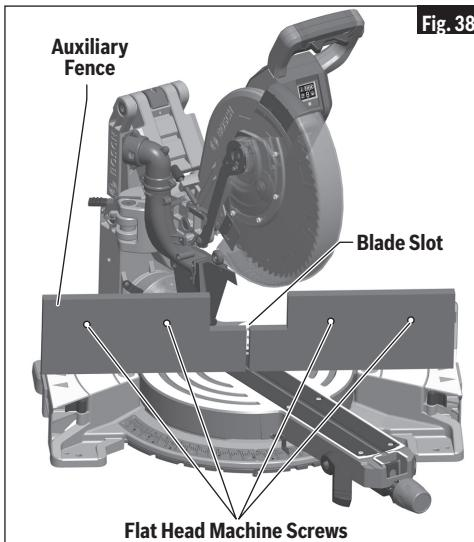
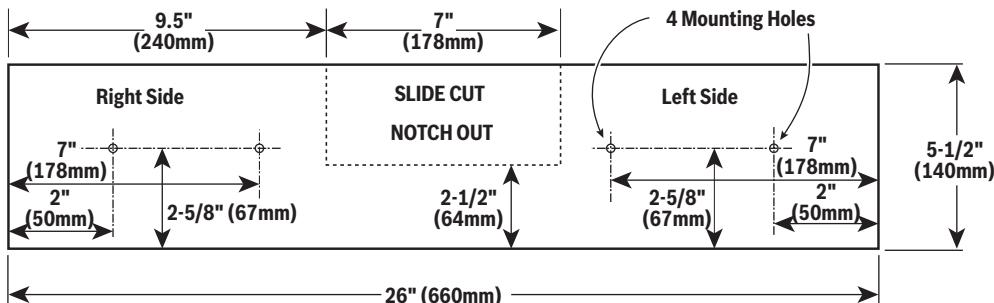

Fig. 38
Fig. 39 Tall Auxiliary Wood Fence - 3/4" (19mm) Thick
1. Place a piece of wood against the miter saw fence (see Fig. 38). Wood can have a maximum height of 5-1/2" (140mm). Check that auxiliary fence assembly does not interfere with head assembly. See dimension drawing – Fig. 39.
7. When making slide cuts, the center must be notched out per pattern (see Fig. 39).